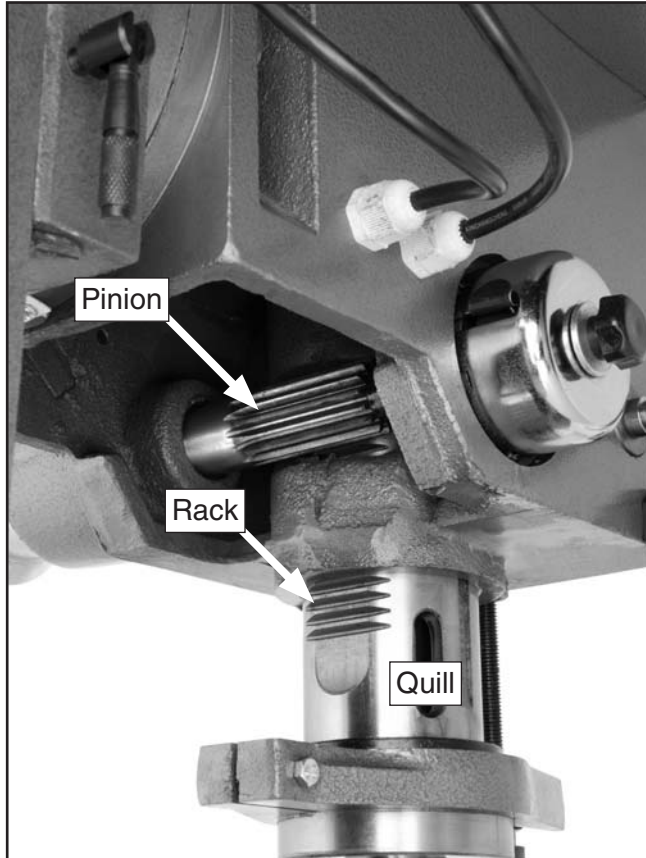

Figure 41. Rack and pinion, and quill.
2. Find the exposed rack and pinion at the underside of the headstock (Figure 41).